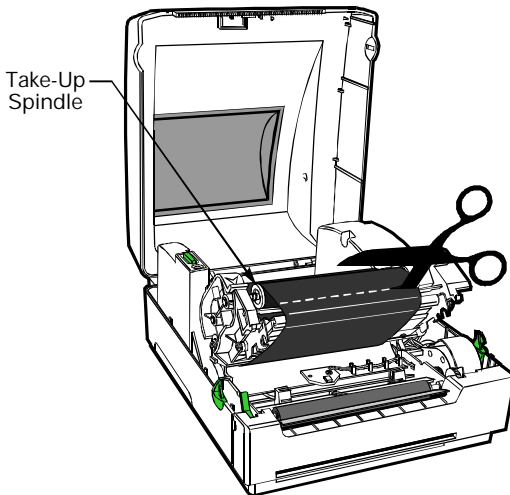

Figure 29
2. Cut the ribbon below the ribbon take-up spindle (refer to Figure 29).